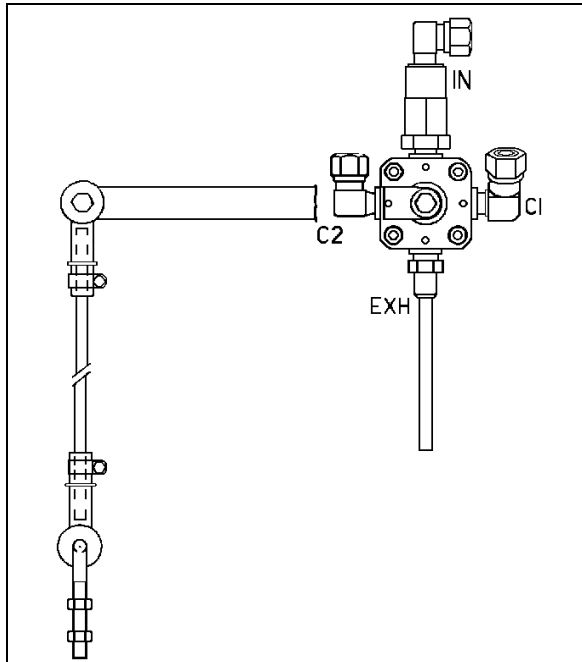

FIGURE 50: REAR HEIGHT CONTROL VALVE 16093
2. Loosen the clamp on the height control valve rubber coupling and bring it up or down (Figure 50).